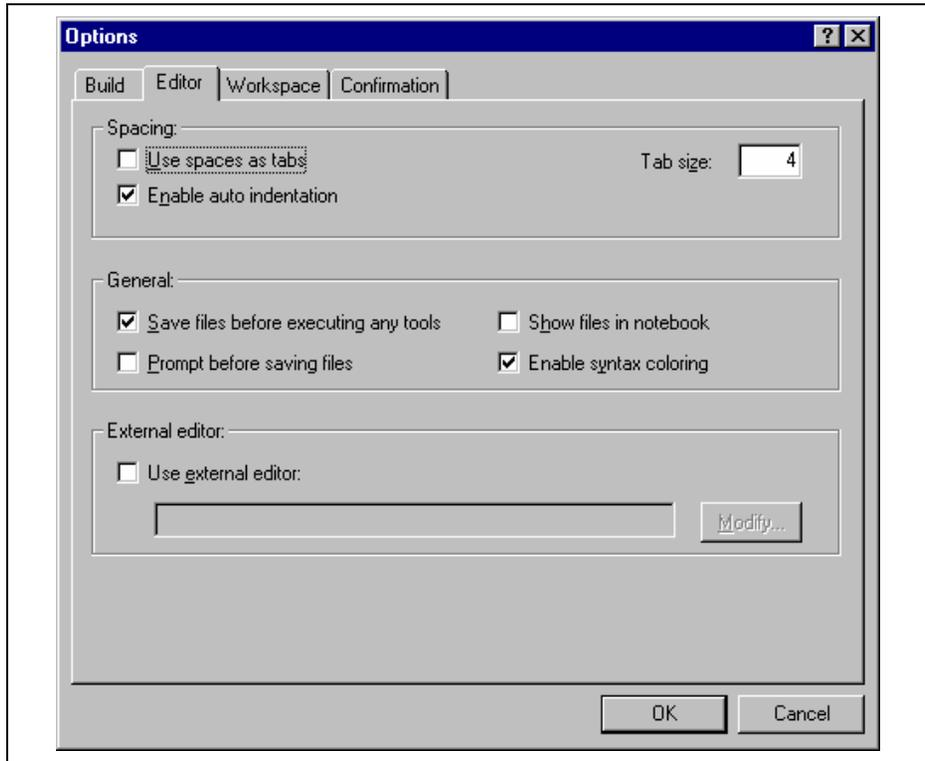

Figure 6.11: Options Dialog Editor Tab
1. Select [**T**ools->**O**ptions...]. The “Options” dialog will be displayed. Select the “Editor” tab (figure 6.11).
The High-performance Embedded Workshop allows you to customize file save on the “Editor” tab of the “Options” dialog (figure 6.11). To open the tab, select [**Tools->Options...**] and click the “Editor” tab.